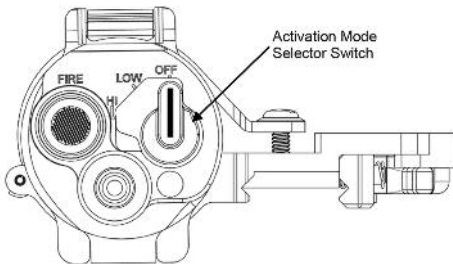

Figure 3-2 Activation Mode Selector Switch
The Activation Mode Selector Switch is located on the right rear of the SPIR housing (see Figure 3-2). The switch is used to select between the various modes of operation. The Activation Mode Selector Switch has three (3) positions. See Table 3-1.